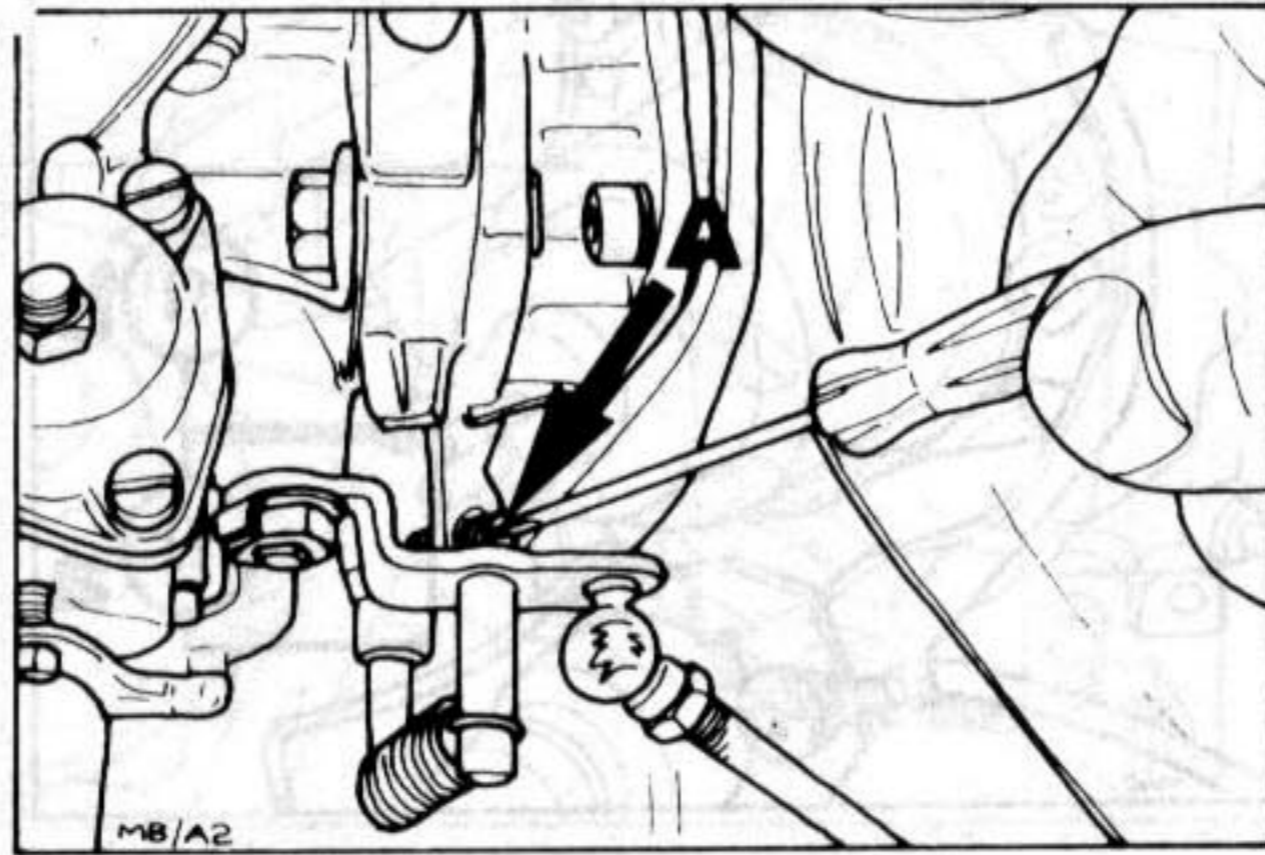

Fig. 2 Idle speed adjustment screw
- If outside specified limits, adjust by turning idle speed adjustment screw (A) at throttle lever (Fig. 2).